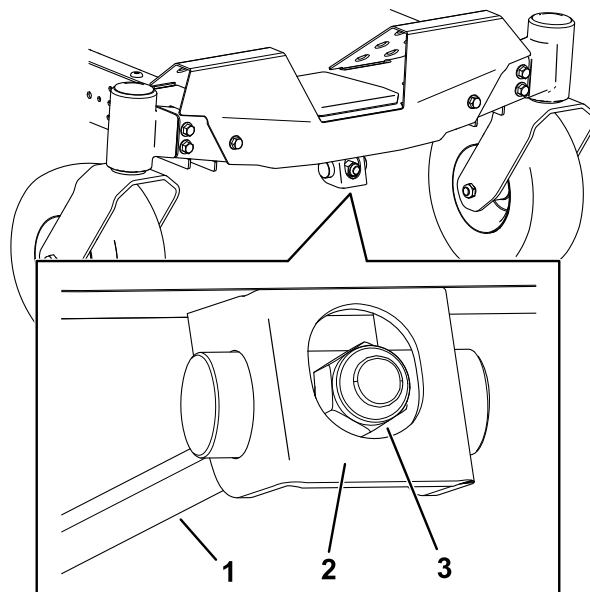

Figure 65
- Rotate the adjustment nut in the front of the mower (Figure 65).